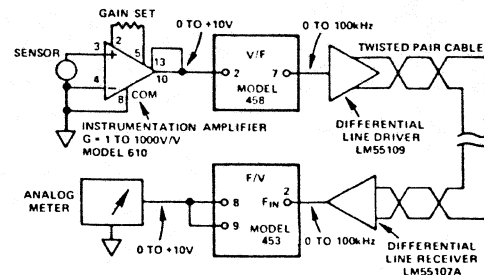

Figure 11. Application of Model 458 V/F Converter in a High Performance, High Noise Rejection Two-Wire Data Transmission System
**High Noise Immunity Data Transmission:** A method of accurately transmitting analog data through high noise environments is illustrated in Figure 11. This approach utilizes the self clocking output of models 458 and 460 and eliminates the need for costly additional twisted pair for external synchronization. Model 610 amplifies the low level differential transducer signal up to the 10V full scale V/F input level. A differential line driver is used to drive a twisted pair cable. The differential line driver and receiver offer high noise immunity to common mode noise signals.